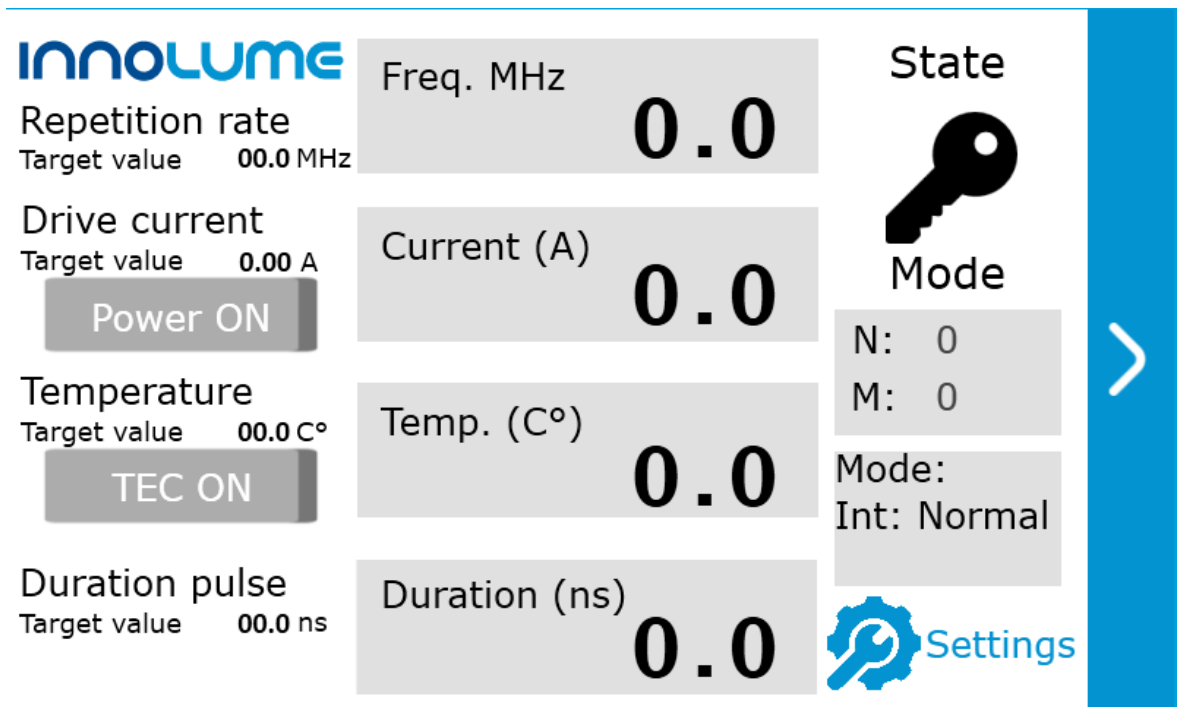

Figure 24 – NS driver menu
1. In NS driver menu (fig. 24) press  to go to the settings menu.